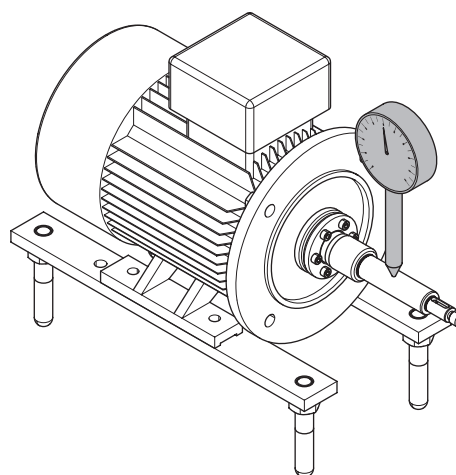

Fig. 35 Pump shaft runout tolerance measurement
6. Place a dial gauge onto the pump shaft to check the runout tolerance; see Fig. 35, "Pump shaft runout tolerance measurement," page 21.